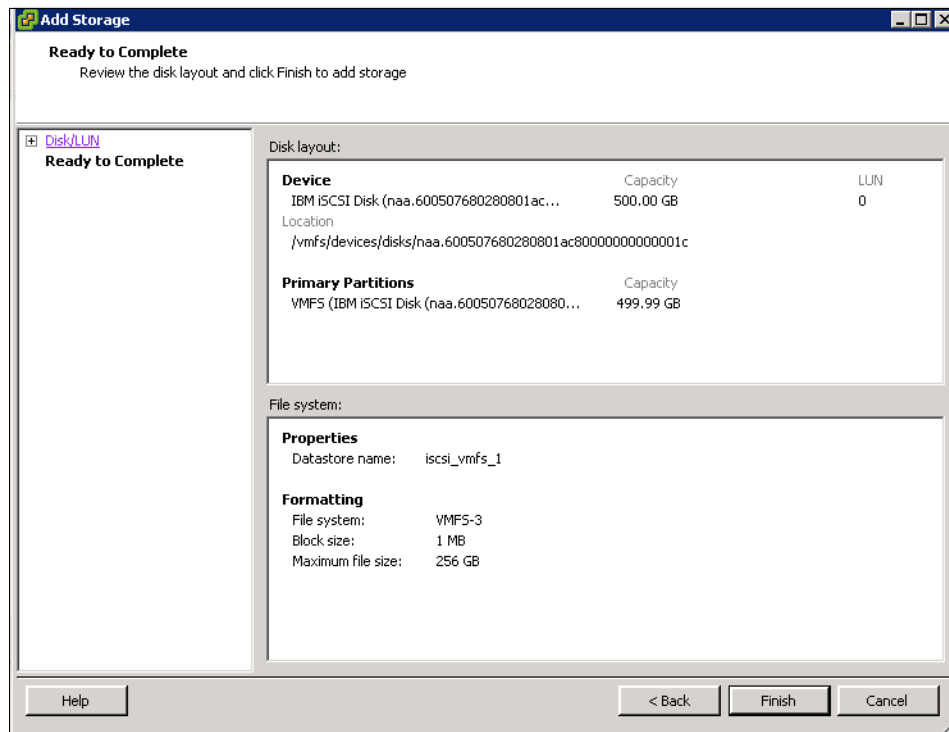

Figure 12-57 Finish the wizard
12. Review your selections and click **Finish** (Figure 12-57).